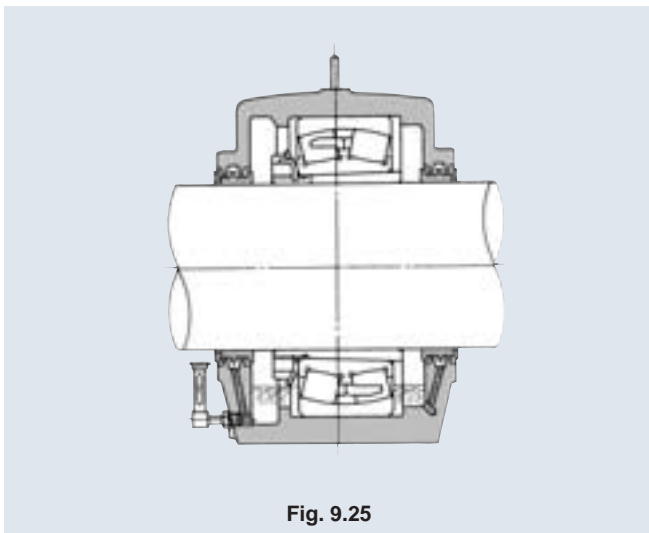

Fig. 9.25
- (5) If the bearing is lubricated with grease, fill the bearing interior with grease, and apply grease to the mating surfaces of the upper and lower plummer block housings. Also, apply grease to the sliding surface of the seal. In the case of a self-aligning roller bearing, incline the outer ring to allow a sufficient volume of grease to be packed into the gaps between the rollers and the cage. (For the volume of grease, refer to Section 11.)
- (6) In the case of oil-lubricated bearings, fill the oil up to the center of the lowest rolling element. (See **Fig. 9.25.**)